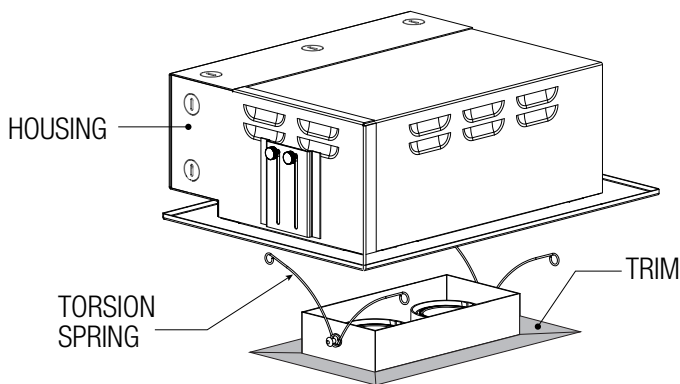

FIGURE 3
2. Once housing is installed, securely in place and ceiling is finished simply compress the TORSION SPRINGS on each end of the TRIM. Slide the TORSION SPRINGS into the brackets located on each side in the inner housing and push into housing. The torsion spring will hold the TRIM in place. See *Fig 3*.